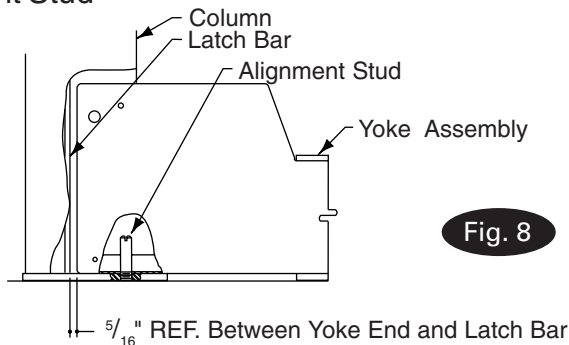

Fig. 8
Note: Columns are not interchangeable. They must be set at their respective corner of the lift. Column double return bend is always to inside of lift, Fig. 9. Place the power unit column at the left rear corner of the lift. The point where the hydraulic hose passes through side of left runway should be visible from this corner. Insert alignment stud through hole in yoke end and thread into base plate of column, Fig. 8. Repeat for other
**IMPORTANT** The yoke/column alignment studs **MUST** be used for proper centering of columns to yokes, Fig. 8. A gap of  $\frac{5}{16}$ " must be maintained between column and yoke. See step 6 B. Note: It may be necessary to remove Plastic Slider from Column Stop on yoke end, Fig. 10, before aligning yoke in column. After yoke is in column,
- REMOVE ALIGNMENT STUDS from all four (4) column bases, Fig. 8.